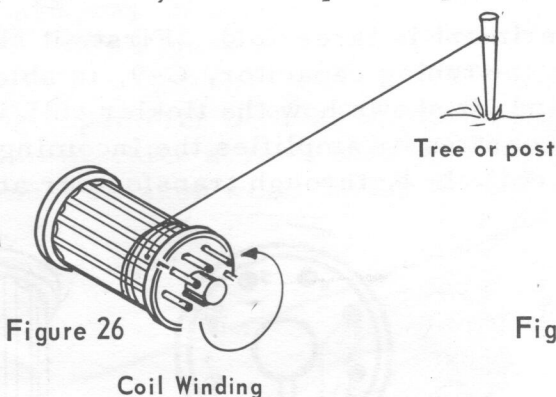

Figure 26
- 6 Pull the wire, which is inserted through the hole above pin #1, tightly, removing the loop of wire inside the coil form. Secure the loose end of the wire to a vise, fence or some solid object. While pulling tightly on the wire, wind 5 turns of wire onto the coil form. The wire must be wound on the coil form in a clockwise direction as viewed from the bottom of the coil form. See Figure 26. After winding 5 turns of wire on the coil form, insert the end of the wire through the small hole directly above pin #2. Pull the wire up and out through the top of the coil form and then pass it back down the center of the coil form and through pin #2. Pull the wire tightly through pin #2, removing the loop of wire inside the coil form.
- 11 While holding the coil form, pull the 24-foot piece of wire tightly, removing the loop of wire inside the coil form. Wind 70 turns of wire on the coil form, winding the wire in a clockwise direction (you will be turning the coil form counterclockwise) as viewed from the base of the coil. See Figure 26. Counting turns will be easier if you place a mark on the rim of the coil form. Leave about 1 thickness of wire space between the antenna coil, L-1, and the tuning coil, L-2. Wind each turn of wire close to the previous turn, leaving no space between turns. At the end of the 70th turn of wire, insert the free end of the wire through the hole which is directly above pin #4. Pull the wire up and out the top of the coil form and then pass it back down through the center of the coil and out through pin #4.